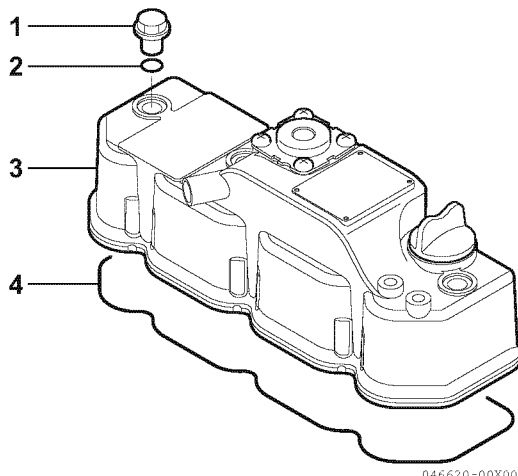

Figure 6-36
1. Lightly grease a new valve cover gasket (**Figure 6-36, (4)**). Place the gasket in the groove of the valve cover (**Figure 6-36, (3)**).
3. Be sure new O-rings (**Figure 6-36, (2)**) are installed on the valve cover nuts. Reinstall and tighten the valve cover nuts (**Figure 6-36, (1)**).